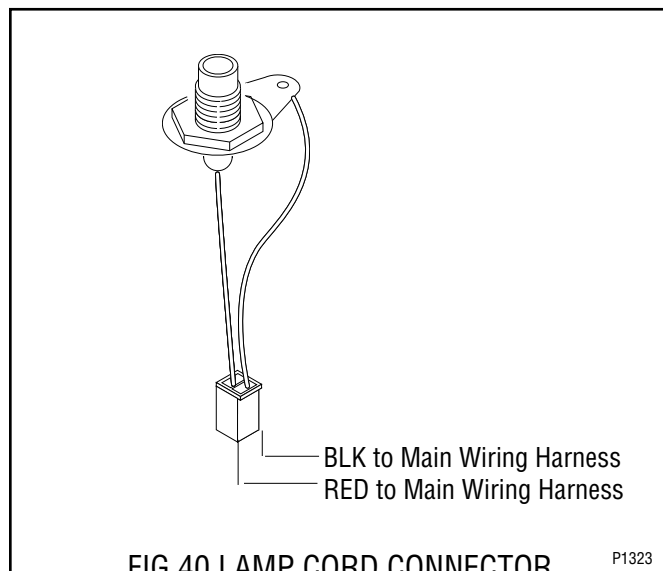

FIG.40 LAMP CORD CONNECTOR
5. Check for continuity across the black wire pin and red wire pin of the lamp cord connector (Fig. 40). Continuity must be present when the lamp cord assembly is connected and must not be present when lamp cord assembly is disconnected from lamp cord connector.
9. Refer to Fig. 40 when reconnecting wires.